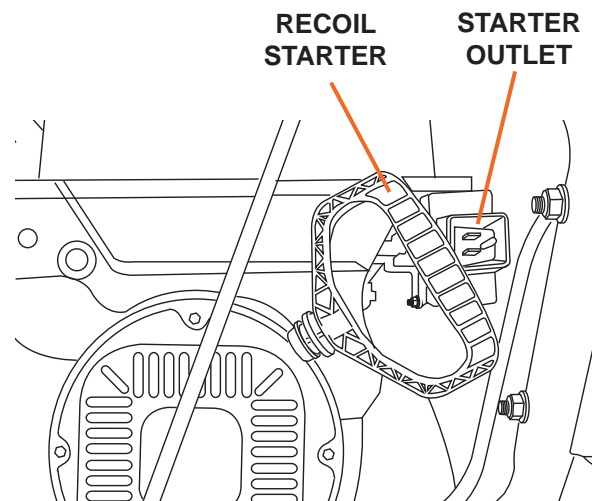

Figure 9
1. Connect extension cord to the starter outlet on the engine and into a 120V AC outlet (see Figure 9).